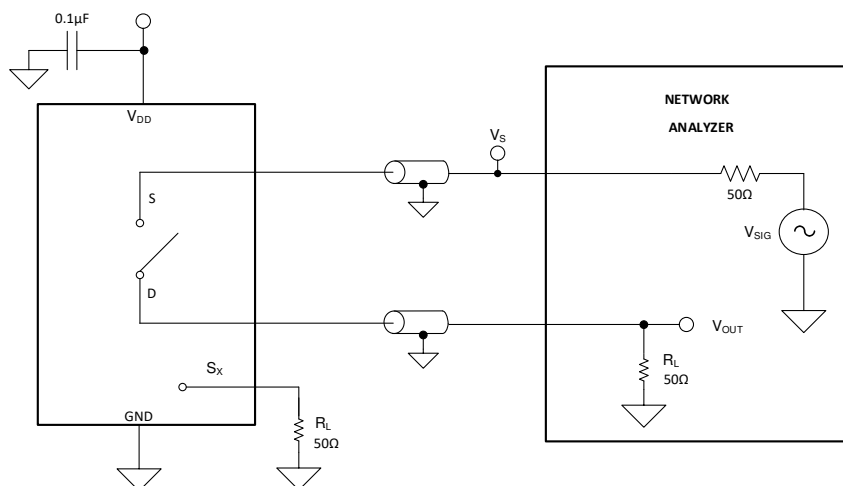

Figure 8-8. Off Isolation Measurement Setup
Off isolation is defined as the ratio of the signal at the drain pin (D) of the device when a signal is applied to the source pin (Sx) of an off-channel. Figure 8-8 shows the setup used to measure, and the equation to compute off isolation.